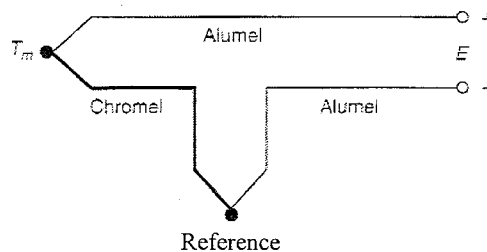

Figure 4 Thermocouple K-type
- An experiment use a K-type thermocouple circuit shown in **Figure 4**. The reference junction is placed in liquid nitrogen (-50°C) and the output voltage measured is 5.902 mV